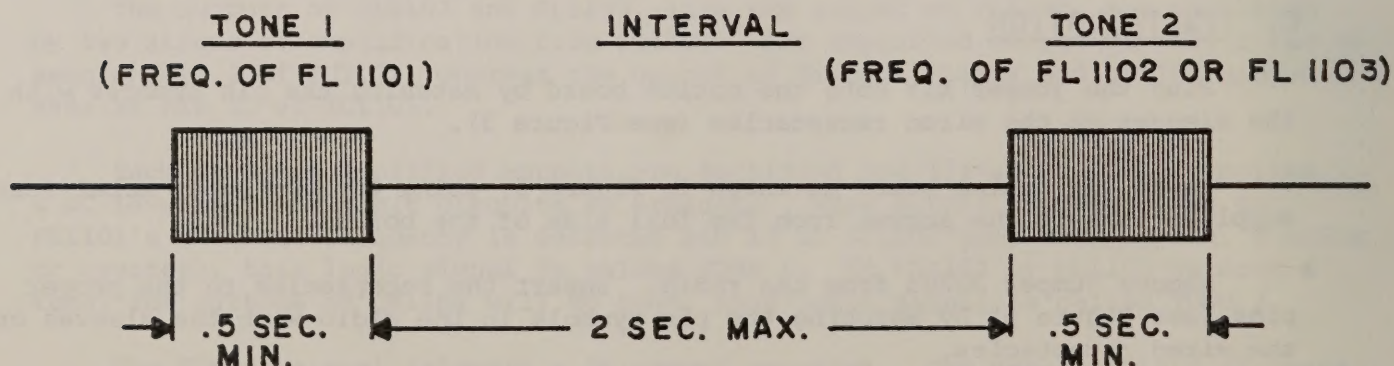

FIGURE 1
B. CIRCUIT DESCRIPTION (Refer to Figure 1 and Figure 3)